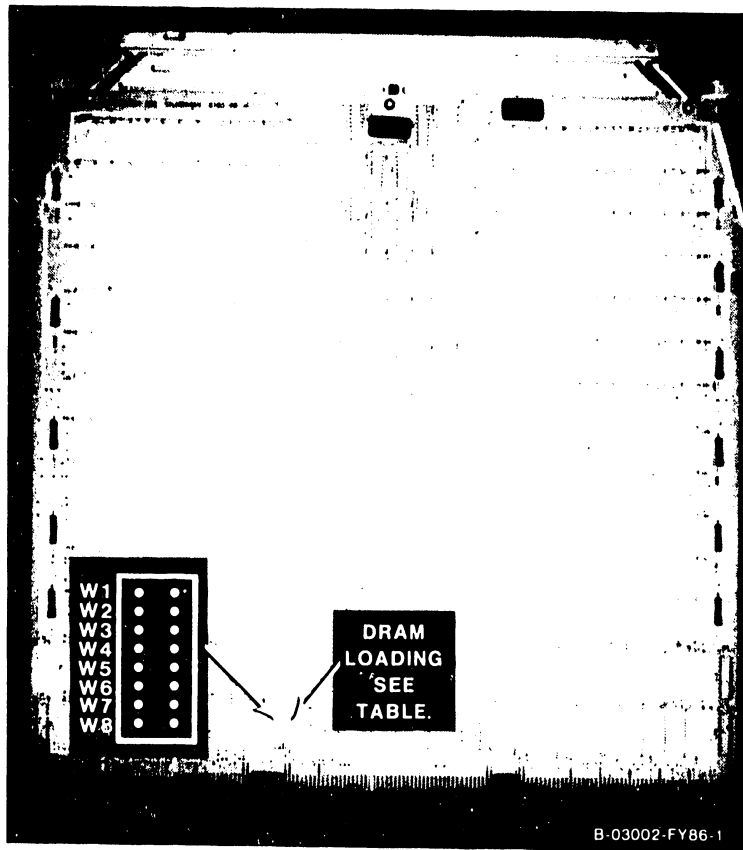

Figure 7-15. 210-8703 Main Memory
1. Remove the Main Memory board(s) (figure 7-15) from memory slots #0 through #3 as described in 7.2.4.1.